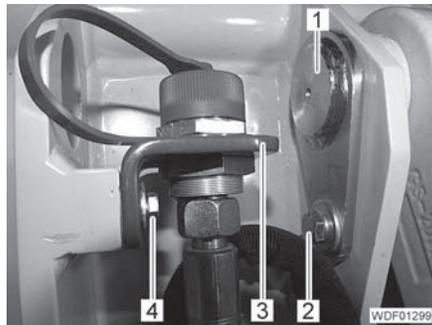

Fig. 314 Drawbar attachment
- Unscrew the 2 screws (Fig. 314,4).
- Carefully place the hydraulic line with holder (Fig. 314,3) to one side.
- Unscrew the screw (Fig. 314,2).
- Drive out the pin (Fig. 314,1).
- Drive in the pin (Fig. 314,1).
- Screw in and tighten the screw (Fig. 314,2) with the washer.
- Position the holders (Fig. 314,3) with hydraulic line.
- Insert and tighten 2 screws (Fig. 314,4) with spring lock washers and disks.